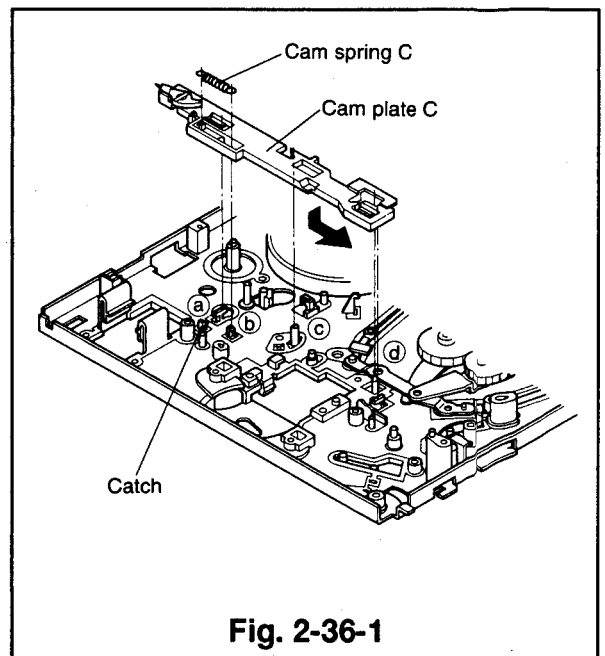

Fig. 2-36-1
- ① Remove the reel belt and the belt pulley. (Refer to Para. 2-28 for the removal method.)
- ② Remove the reel idler assembly. (Refer to Para. 2-35 for the removal method.)
- ③ Remove the loading motor assembly (which holds the motor holder). (Refer to Para. 2-29 for the removal method.)
- ④ Remove the main gear-J. (Refer to Para. 2-30 for the removal method.)
- ⑤ Remove the plate-J, the roller-B, and the cam plate-B. (Refer to Para. 2-33 for the removal method.)
- ⑥ Remove the cam spring-C. (Refer to Fig. 2-36-1.)
- ⑦ Slide the cam plate-C to the left end.
- ⑧ Unfasten the catch and raise the cam plate-C to remove it. (refer to Fig. 2-36-1.)
- ② Position the cam plate-C so that the four points(Ⓐ, Ⓑ, Ⓒ and Ⓓ) shown in Fig. 2-36-1 enter into the matching holes and slide it to the right end.
- ③ Install the cam spring-C.
- ④ Install the cam plate-B, the roller-B, and the plate-J. (Refer to Para. 2-33 for the installation method.)
- ⑤ Install the main gear-J. (Refer to Para. 2-30 for the installation method.)
- ⑥ Install the loading motor assembly(which holds the motor holder). (Refer to Para. 2-35 for the installation method.)
- ⑦ Install the reel idler assembly. (Refer to Para. 2-35 for the installation method.)
- ⑧ Install the belt pulley and the reel belt. (Refer to Para. 2-28 for the installation method.)